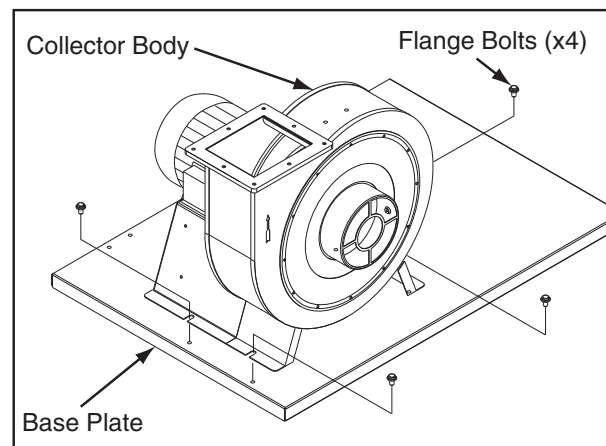

Figure 27. Mounting collector to base.
2. Turn the base over, then set the collector body on top of the base plate so the intake portion is near the edge of the base plate and the bolt holes are aligned, as shown in **Figure 27**. Secure the collector body to the base plate with (4) 5/16"-18 x 1/2" flange bolts.